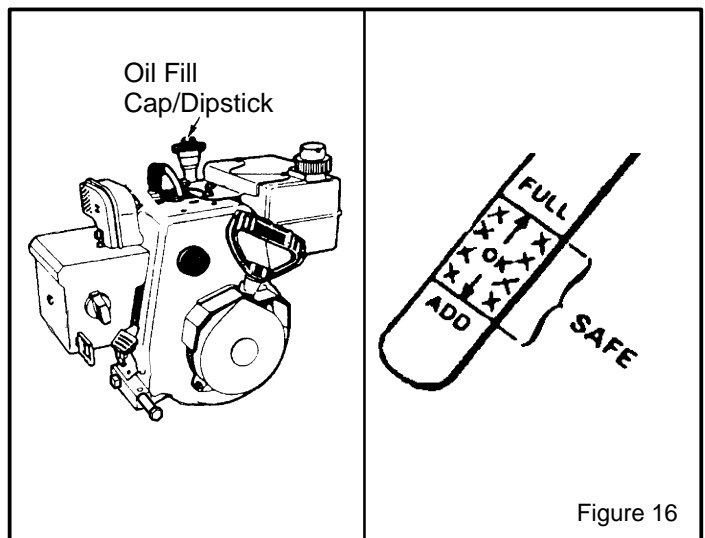

Figure 16
3. If necessary, add oil until the oil reaches the FULL mark on the oil fill/cap dipstick (see Figure 16). Do not add too much oil.